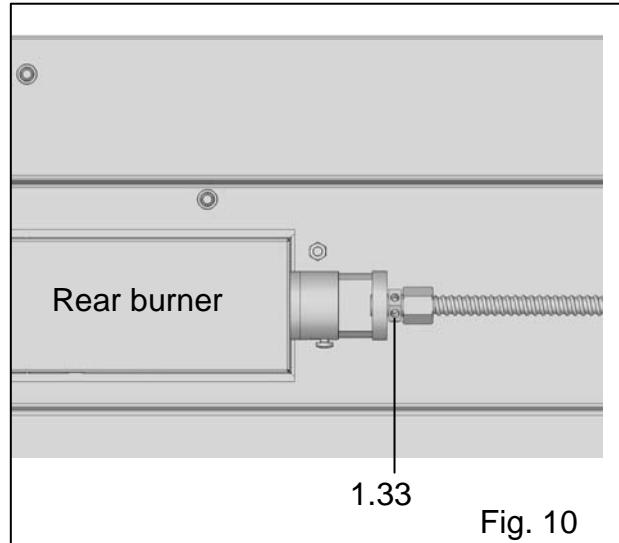

Fig. 10
- Replace it with the NG orifice, and then tighten. **Make sure you are using the correct orifice, marked “1.33”. This is the orifice that came with the grill. (Fig. 10)**